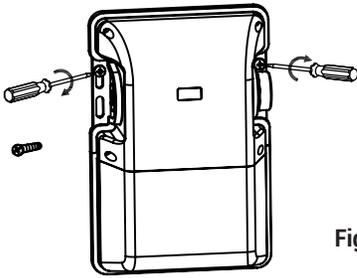

Fig 1
1. Follow (Fig 1) & screw driver to fix the fixture by the 2xM3 screws installed on the ear holes on each side.